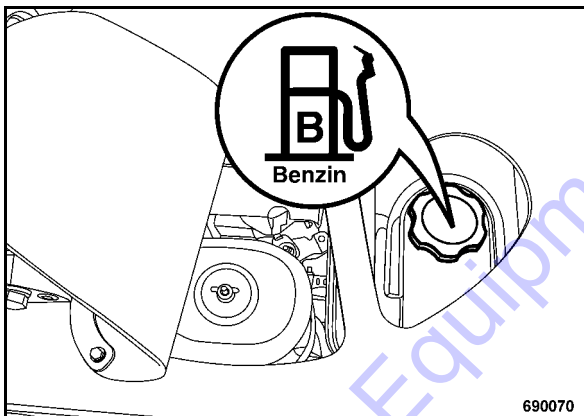

Fig. 42
- Clean the area around the filler cover, unscrew the filler cover (Fig. 42).